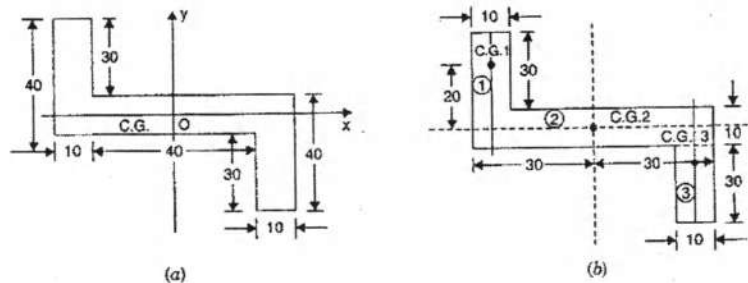

Figure 6
6. For the section shown in figure 6 determine [10]